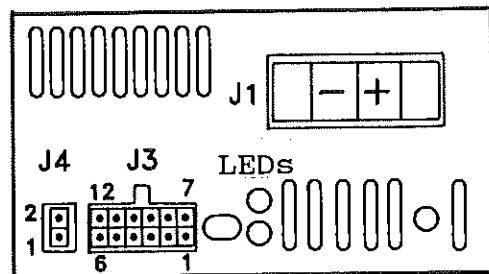

Figure 11. Battery-Backup Unit Front and Rear Panel Views
- 16.2 **Front and Rear Panel Descriptions.** The Battery-Backup Unit has three connectors on the front panel (See Fig. 11). J1 is an AMP connector for the battery input. To the right of J3 are two LEDs, an amber one on top which indicates the unit is on battery operation and a green one underneath which indicates the unit is on AC operation. J3 is a 12-pin Molex connector for the Battery-Backup control and supervisory signals. J4 is a two-pin Molex connector for an optional 5V external isolated alarm circuit.